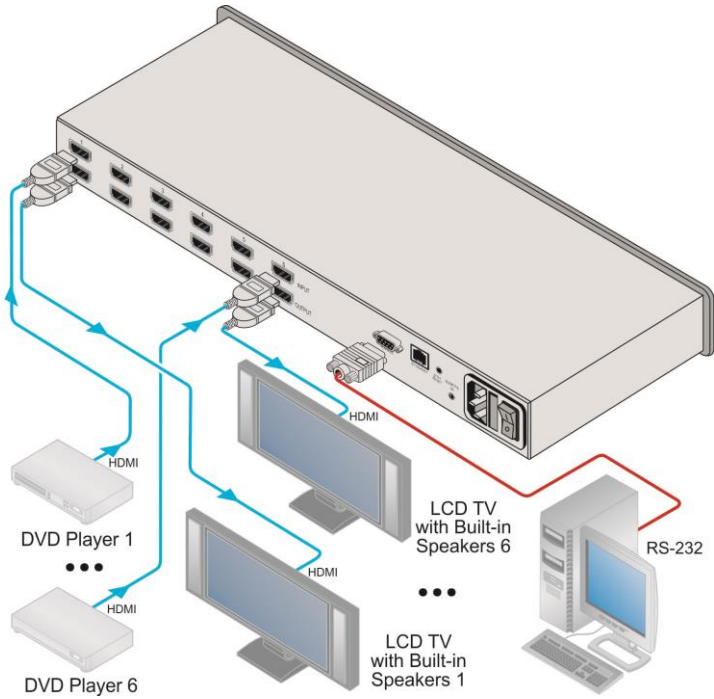

Figure 3: Connecting the VS-66HN 6x6 HDMI Matrix Switcher
To connect the VS-66HN 6x6 HDMI Matrix Switcher as illustrated in the example in Figure 3:
4. Connect the device to the mains electricity (not shown in Figure 3).